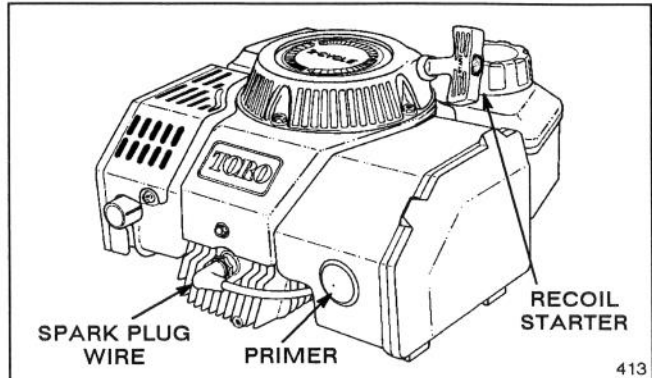

Figure 1
1. Attach spark plug wire to spark plug (Fig. 1).